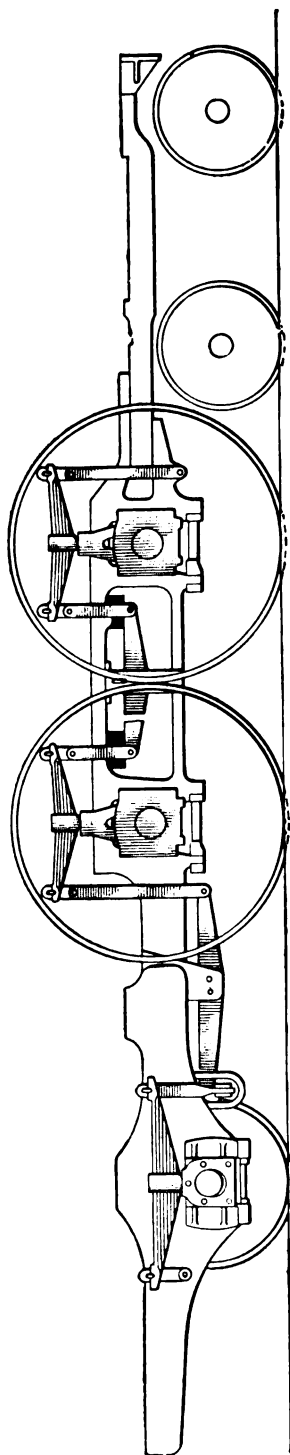

FIG. 47.
**102.** Probably the quickest way of handling a broken intermediate equalizer on a Northwestern type engine is to raise that side of the engine by means of jacks, for by that means the tension of the entire spring rigging will be relieved. Then pry down the front end of the second driving spring and block between the lower hanger pin and the top rail of the frame, as shown in Fig. 47; this will give the use of the back driving spring. Next pry down the back end of the front driving spring and block between the bottom hanger pin and the top rail of the frame, as indicated in the above figure; this will give the use of the front driving spring.